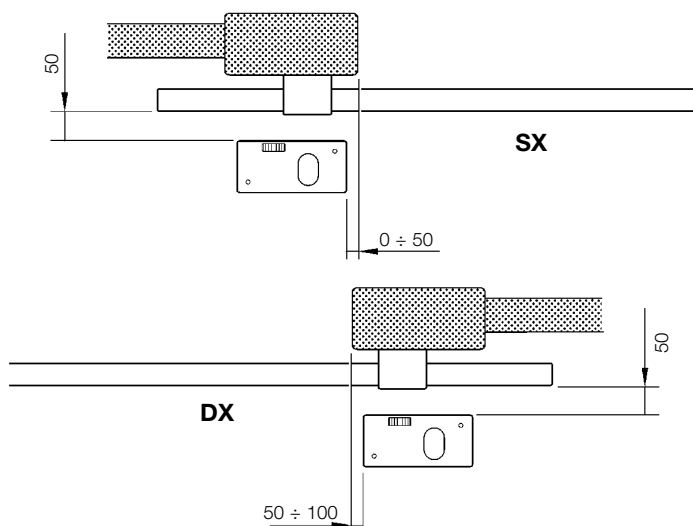
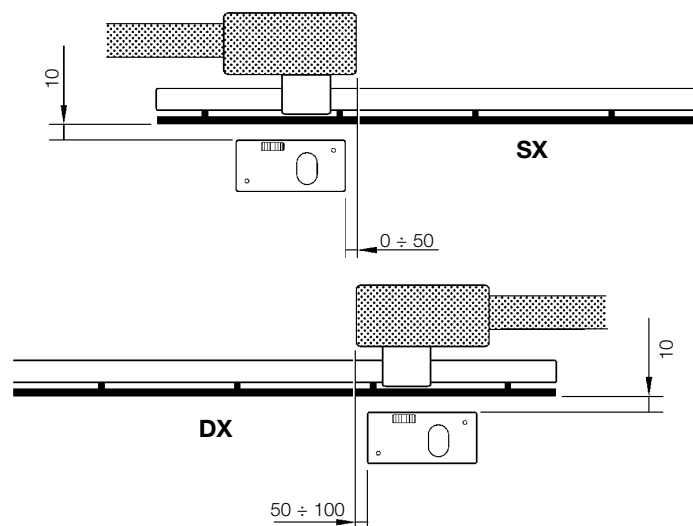
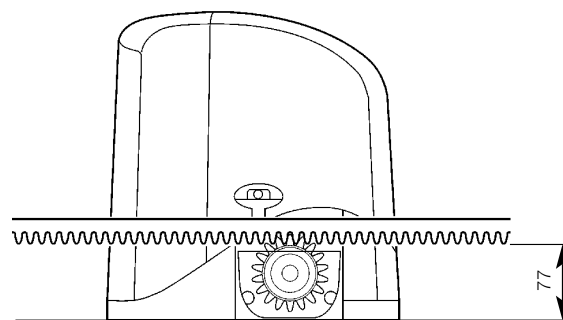

Figure 11
Figure 12
Figure 15
- Both with the gearmotor mounted to the left "LT" and to the right "RT", the distances indicated in figure 11 (gate without rack) or figure 12 (gate with rack) must be respected.
If the rack is already mounted on the gate, make sure its position is compatible with the size limits indicated in figure 15 and check that the pitch of the rack is module 4 (approx. 12mm).
1 Dig the foundations according to the "Preliminary checks" paragraph and in particular the distances indicated in figure 11 on page 10.
4 Position the foundation plate making sure that the grooved side (indicating the position of the pinion) faces the gate observing the distances shown in figure 11.
1 Dig the foundations according to the "Preliminary checks" paragraph and in particular the distances indicated in figure 11 on page 7. Make sure the foundation plate is 77 mm from the rack, see figure 15.